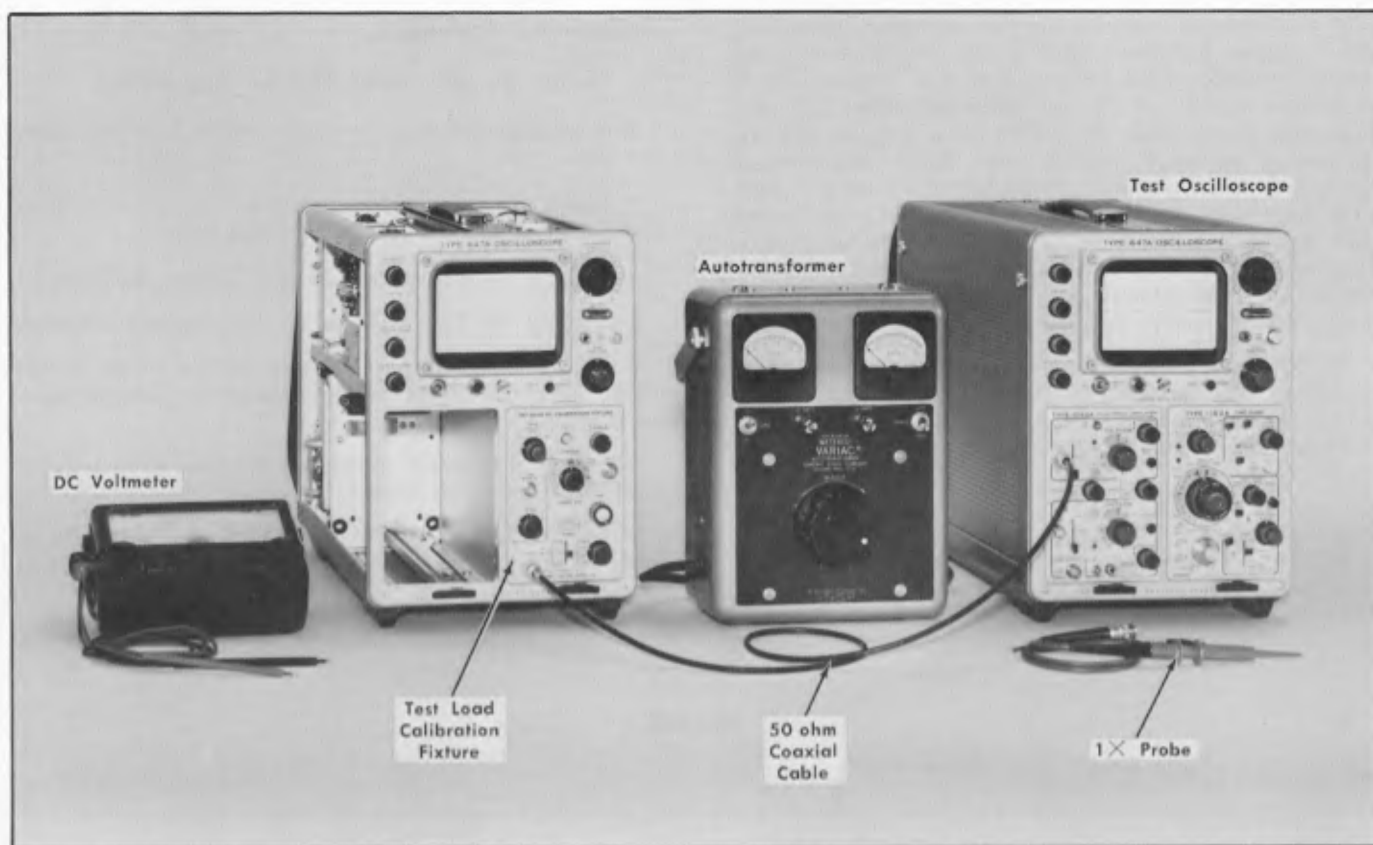

Fig. 6-3. Initial test equipment setup for steps 1 through 6.
a. Test equipment setup is shown in Fig. 6-3.